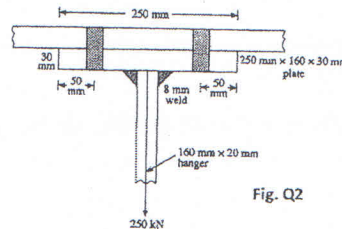

Fig. Q2
- Fig. Q2 shows a hanger connection carrying a factored load of 250kN. Investigate the safety for the two 30mm diameter bolt of grade 5.6. Grade of steel is Fe415